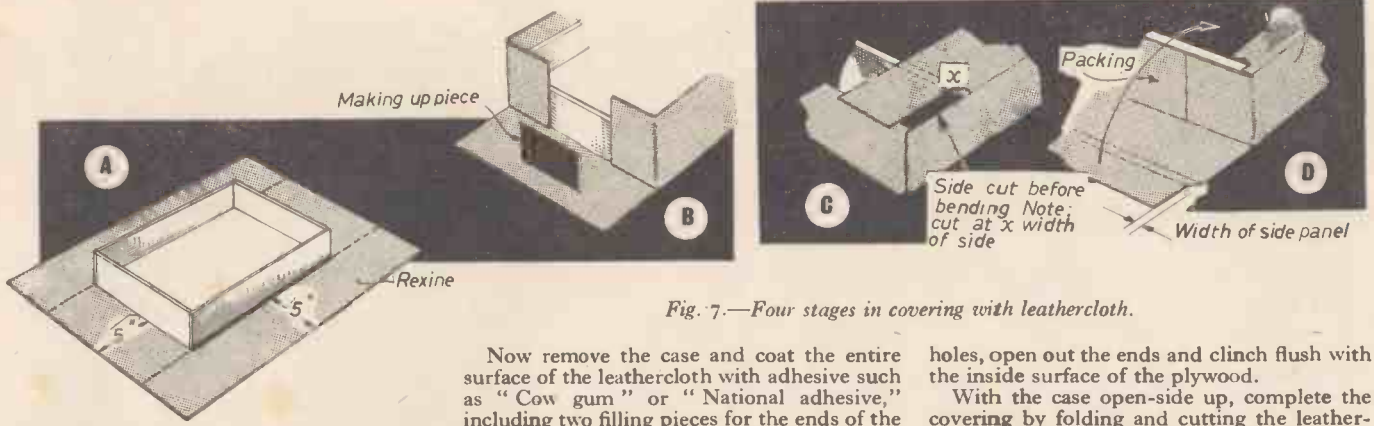

Fig. 7.—Four stages in covering with leathercloth.
Lay the leathercloth for the outer covering on a flat surface and locate the bottom of the case so that there is at least 5in. of leathercloth extending beyond the case on each side (A in Fig. 7). Mark round the case with pencil and with a straight edge extend the line of the long sides to the edge of the leathercloth. Cut the cloth along these lines from the corner of the case to the edge. Fold the cloth up the 21½in. sides of the case and turn the ends along the other sides of the case, then cut two pieces of leathercloth to fill the gap on the ends between pencil marks (B).
With the case open-side up, complete the covering by folding and cutting the leathercloth as shown in Fig. 7, C and D.